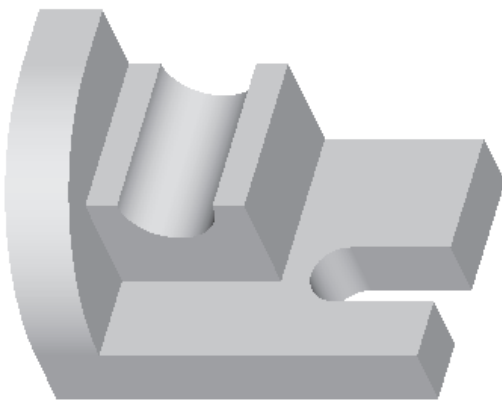

Figure 4-74 Model with the second extruded feature
- d. From the model it is evident that the third and fourth features are created on the same plane, but their depths of extrusion are different and hence they will be created as two separate extruded features. See Figure 4-74 and Figure 4-78.
8. Now, choose the **OK** button from the **PROTRUSION** dialog box to confirm the feature creation and to exit the dialog box. The default view that is displayed when you choose the **Default** option from the **Saved view list** button is shown in Figure 4-74.